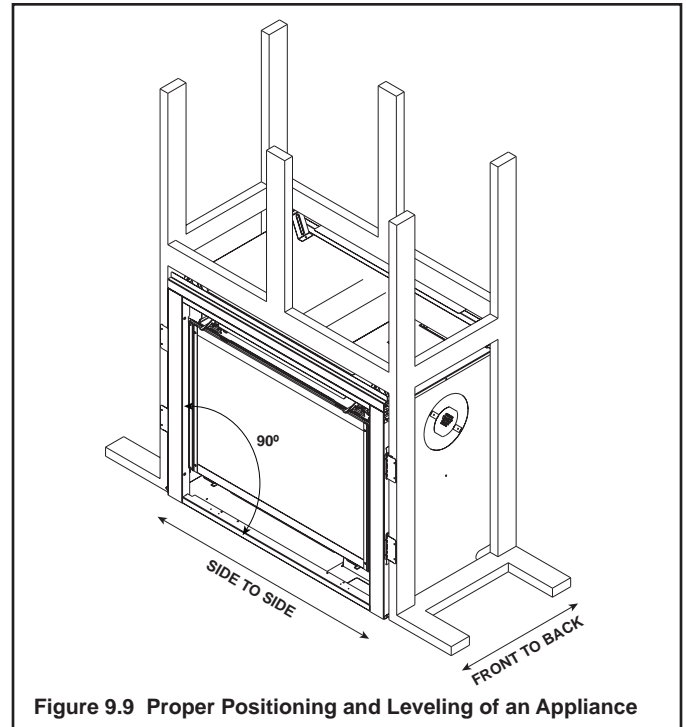

Figure 9.9 Proper Positioning and Leveling of an Appliance
The diagram shows how to properly position, level, and secure the appliance (see Figure 9.9). Nailing tabs are provided to secure the appliance to the framing members.
7. Using a framing square, make sure that the sides of the appliance are square to the bottom as shown in Figure 9.9.